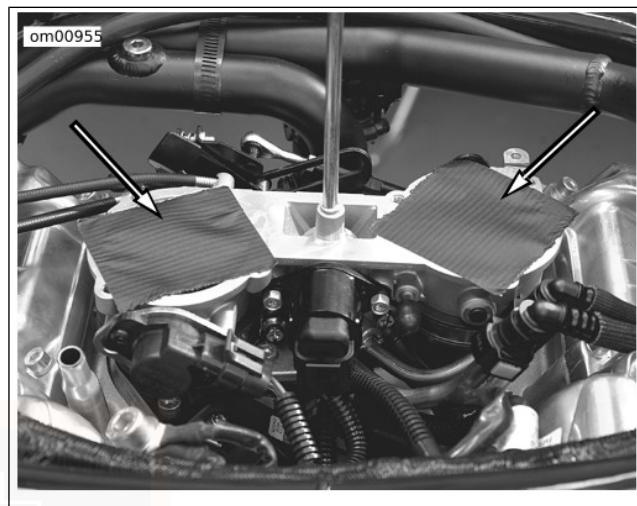

Figure 54. Covering Injector Intakes
7. See Figure 54. Cover injector intakes.